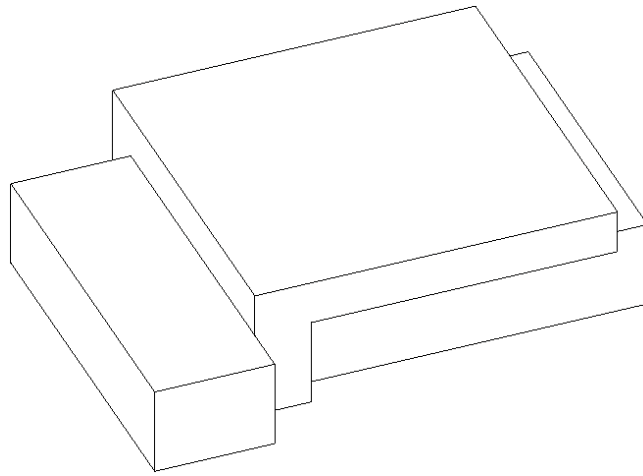

FIGURE 7.5 The linked 3D sketch as an in-place mass
4. The geometry should appear successfully on Level 1 of your model. Click the Finish Mass button from the ribbon. Then click the 3D View button on the View tab of the ribbon. Your geometry and view should look like Figure 7.5.